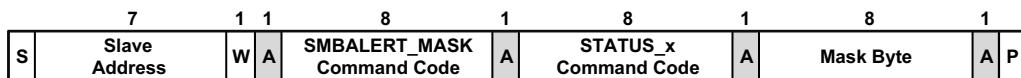

Figure 33. SMBALERT\_MASK Command Packet Format
Figures 33 and 34 show the command format used to block a status bit or bits from causing the SMBALERT# signal to be asserted. The bits in the mask byte align with the bits in the corresponding status register. For example, if the STATUS\_TEMPERATURE command code were sent with the mask byte 01000000b, an over-temperature warning condition would be blocked from asserting SMBALERT#.
**Note:** Figure 33 shows the command format used by the host to determine the SMBALERT\_MASK setting for a given status register.